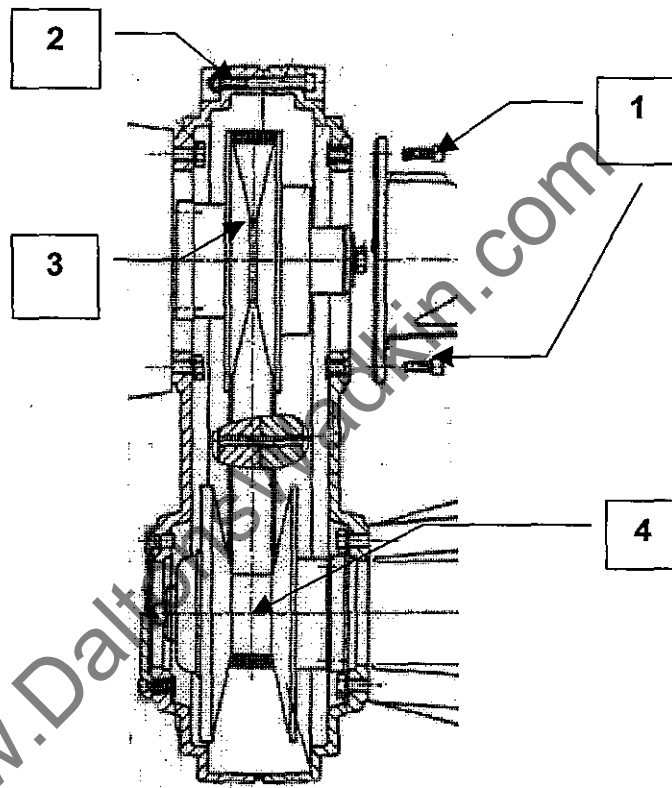

Figure 7.3.4
- 5 Remove the two axial bolts (2).
- 6 Release the two banjo barrel clamp nuts (3).
- 8 Slide the banjo and motor towards the axial nut block and tighten nuts (3).
- 9 Tighten bolts (2).
7.3.4 Replace Variable Speed Drive Belt (Figure 7.3.4)